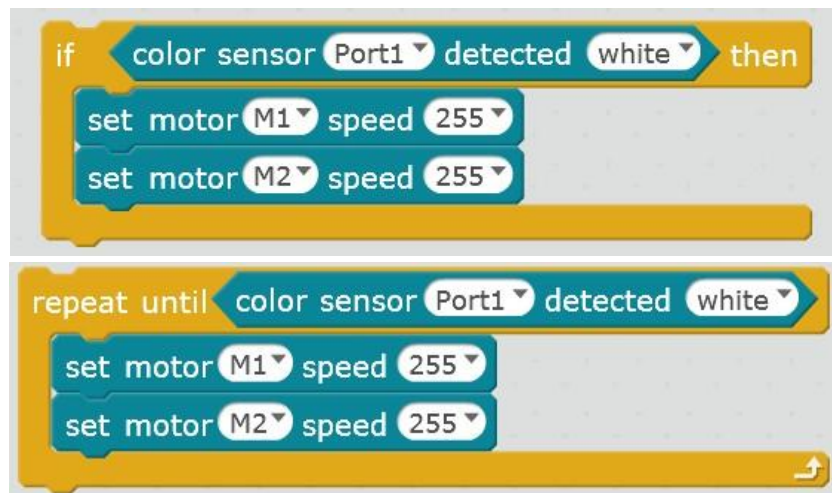

Figure 5: Color Sensor Basic Program
(2) The basic programs for using a color sensor are as shown in Figure 5.